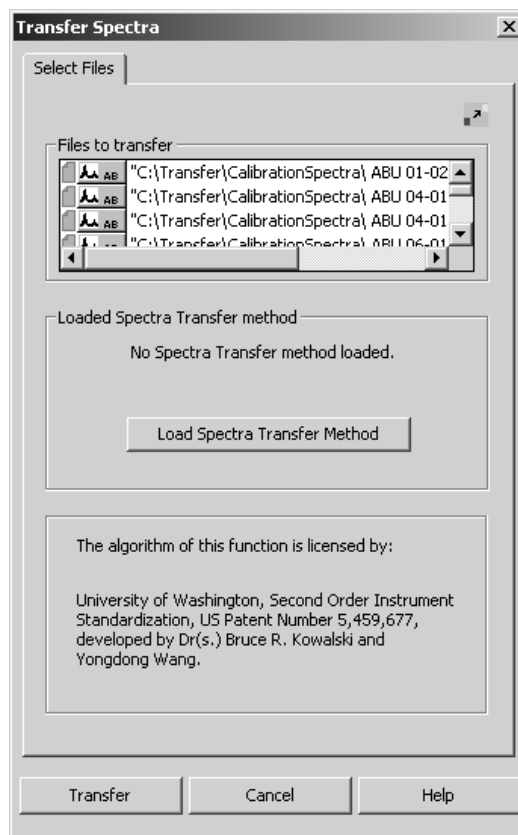

Figure 121: Spectra Transfer
- 2) Load the original spectra you want to transfer to OPUS. Select in the *Evaluate* menu the *Transfer Spectra* function. Drag and drop the spectra into the *Files to transfer* field and load an already existing spectra transfer method by clicking on the corresponding button. See figure 121. You can perform the spectra transfer also using the already loaded method (i.e. the method that has been used last). To start the spectra transfer click on the *Transfer* button. The transferred spectra are stored in the same directory as the original spectra. In this case, the original spectra are overwritten by the transferred spectra.